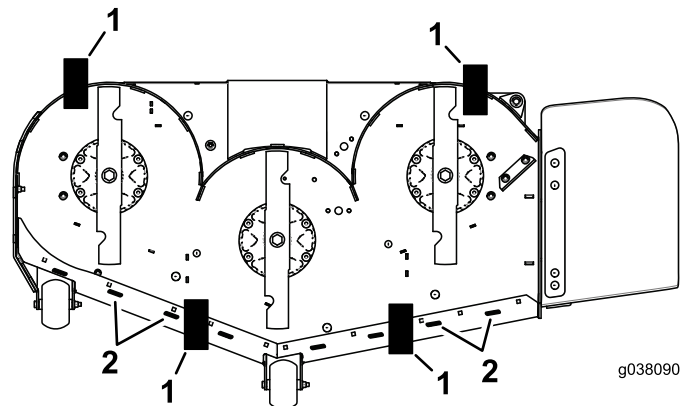

Figure 86
11. Place 2 blocks (see Block Height and Rake Table) under the rear edge of the cutting deck skirt; 1 on each side of the cutting deck (Figure 86).